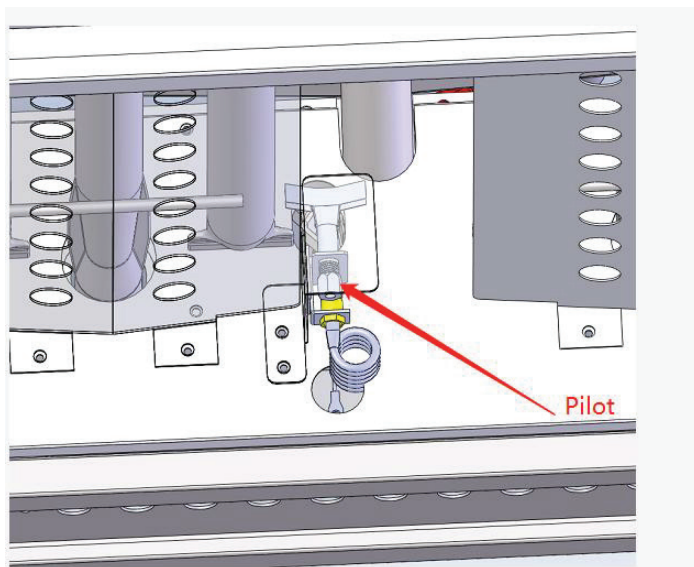

Fig. 3
5. Put the machine upside down. You will see the pilot in Fig. 3. Unscrew the gas tube from the pilot burner and carefully pull it away from the pilot burner.